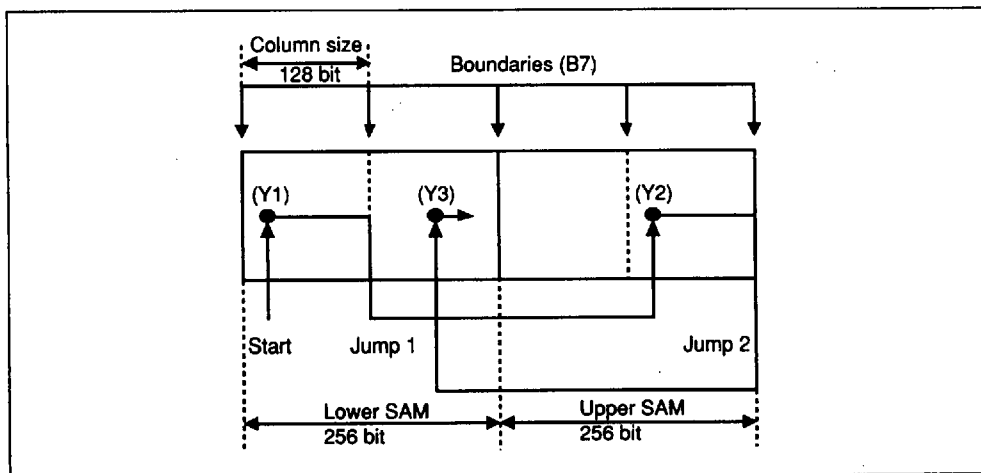

Figure 6 Example of Boundary Split Register
cycle performs the boundary operation. Figure 6 shows an example of boundary split register. (Boundary code is B7.)
**Stopping Column Set Cycle (CBRS):** Start a stopping column set cycle by driving  $\overline{\text{CAS}}$  low,  $\overline{\text{WE}}$  low, and DSF1 high at the falling edge of  $\overline{\text{RAS}}$ . Stopping column data (boundaries) are latched from address inputs on the falling edge of  $\overline{\text{RAS}}$ . To determine the boundary, A2 to A7 can be used, and A0, A1, and A8 don't care. In the HM538253/HM538254, 7 types of boundary (B2 to B8) can be set including the default case. (See stopping column boundary table.) If A2 to A6 are set high and A7 is set low, the boundaries (B7) are selected. Figure 6 shows the example. Once a CBRS is executed, the stopping column operation mode continues until CBRR.